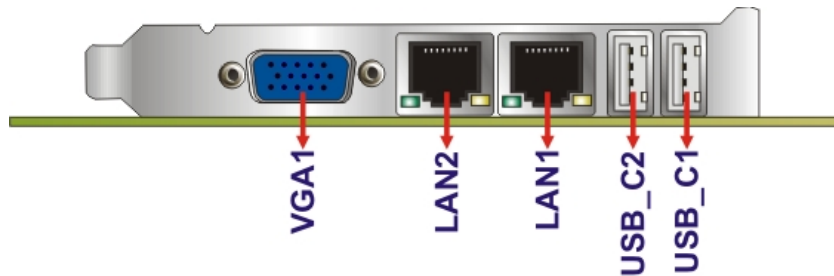

Figure 3-23: External Peripheral Interface Connector
- CN Location:** See Figure 3-23
CN Location: See **Figure 3-23**